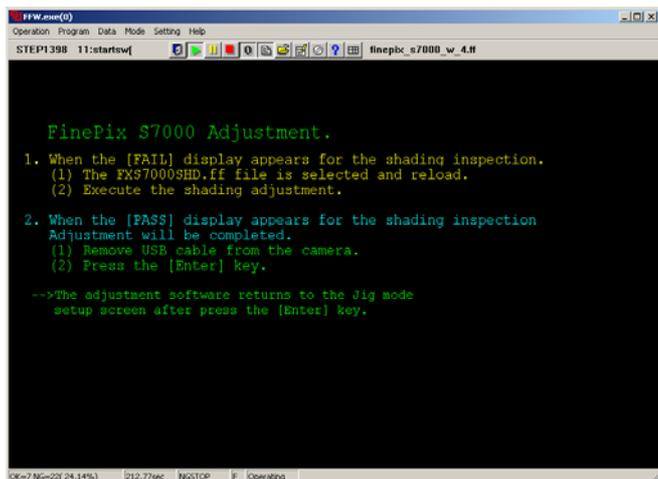

Fig.54
---> When the settings are completed normally they are saved to the flash ROM, and the [FinePix S7000 Adjustment completed Screen (Fig.54 or 55)] is appears.